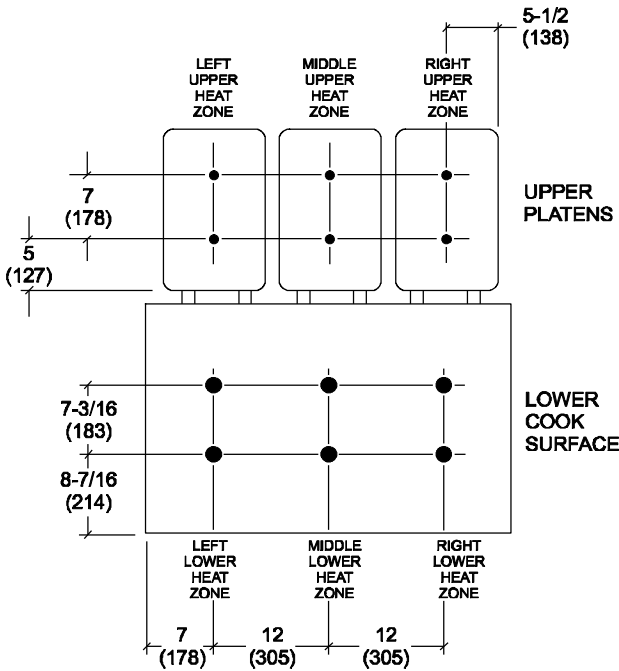

Figure 35
See Figure 35 below, which identifies the probe locations.
3. Place a pyrometer surface probe on the selected heat zone as shown in Figure 35.